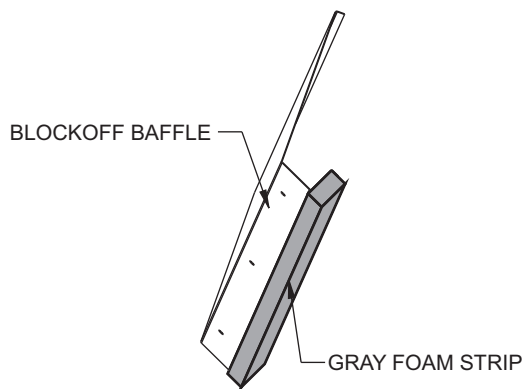

Fig. 29 — Adding Foam Strip to Block-Off Baffle
7. Attach gray foam strip (provided) to block-off baffle on outer face of flange. See Fig. 29.